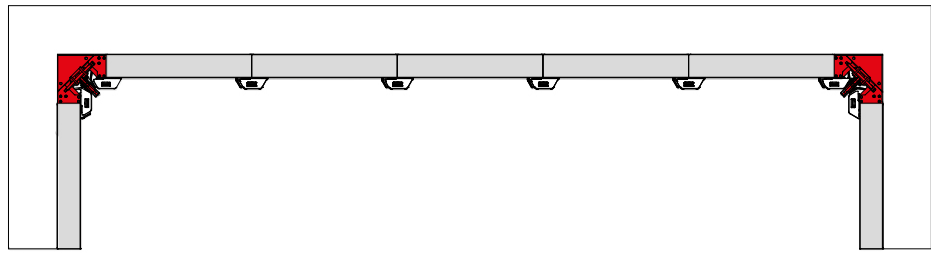

Fig. 51.1
1. Remove the AS assembly locks connecting the stripping corners to the panels (Fig. 51.1).